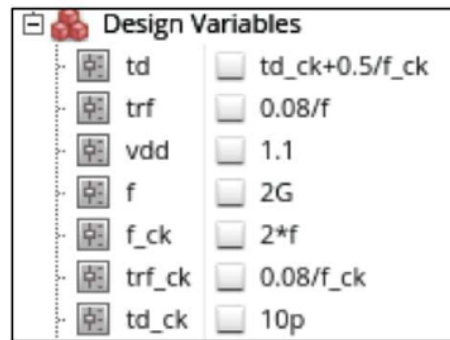

Figure 6. Setup parameters for transient analyses
- Students may refer the setup parameters shown in **Figure 6**.